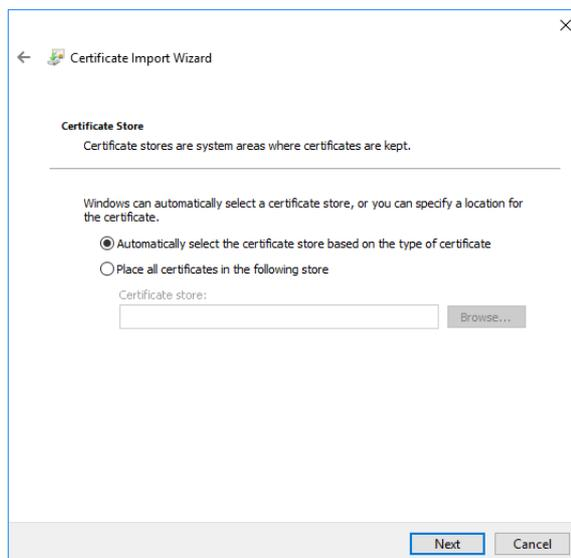

Figure 2-49. Selecting certificate store
7. Select the option to automatically select the certificate store, see Figure 2-49.